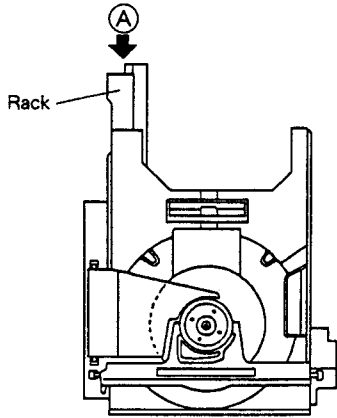
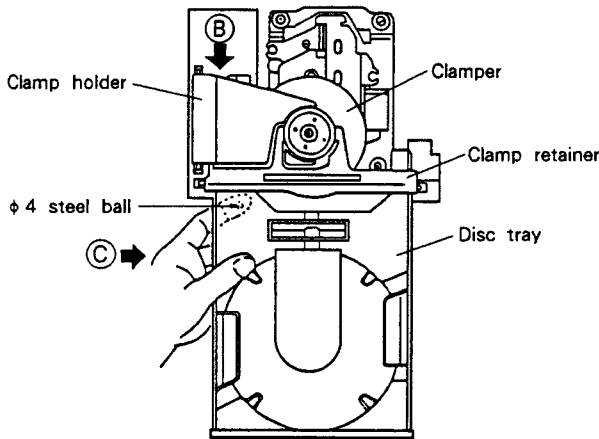
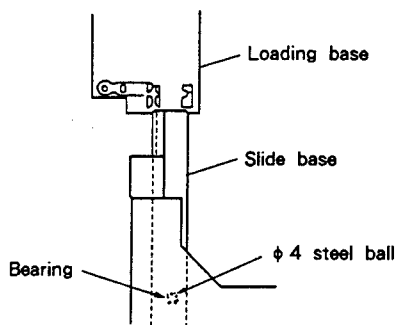
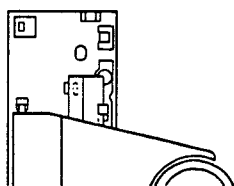

Fig. 7-4
Fig. 7-5
Fig. 7-10
Fig. 7-11
1. Press the rear edge of the rack, (*1) marked **A** in Fig. 7-4, while pulling the disc tray out to the position where it catches, illustrated in Fig. 7-5.
2. While pulling the clamp holder **B** (see Fig. 7-5) upward with the right hand, hold the tray as indicated by **C** in the left hand and pull it outward. Take care not to allow the $\phi 4$ steel ball to fall (we recommend holding the ball in place with the left index finger while extracting the tray.)
<p>Re-mount the disc tray according to the following procedure when the grating adjustment is complete.</p> <ol style="list-style-type: none"> 1. Remove the disc and the spacer. 2. While lifting the clamp holder [marked ② in Fig. 7-5] with the right hand, hold the tray in the left hand as indicated by ③ and slide the slide base into the hard resin fittings on the loading base as shown in Fig. 7-10 to re-insert the disc tray. <p>At this time, be sure to hold the steel ball in place with the index finger of the left hand. Also, be careful that the front panel is not damaged by the slide base and bearing of the steel ball's bearing (in the slide base) coming into contact with the panel.</p> <ol style="list-style-type: none"> 3. Insert the slide base so that it fits into the two hard resin fittings at the rear of the loading base (see Fig. 7-11). 4. Insert the tray tightly.